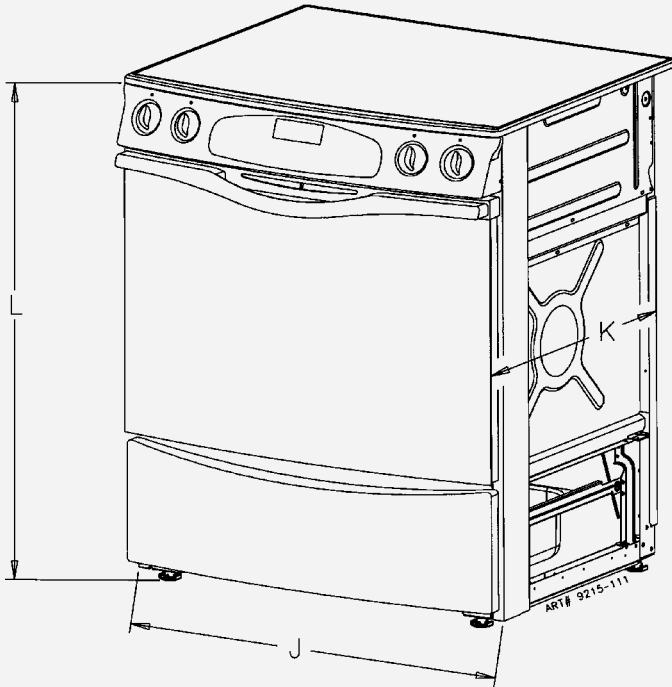

FIGURE 4
2. Dimension K (figure 4, page 4) is from the wall to the side edge of the oven door. It does not include the curvature of the glass or the depth of the handle.
3. Dimension L (figure 4, page 4) is with the leveler legs adjusted all the way in. This may vary slightly upon leveling leg adjustment.